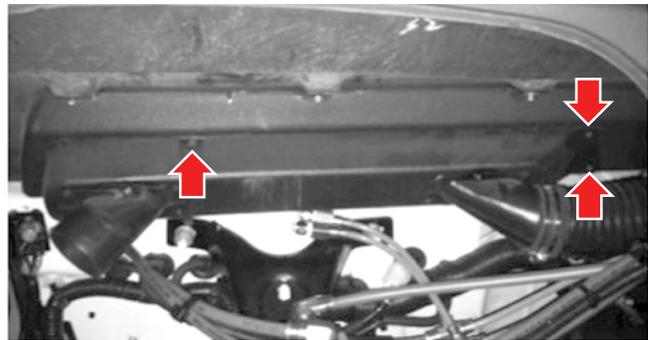

Figure 10-3
3. Remove the intermediate duct attached to the main defrost duct. Seal the screw holes by reinstalling the screws used to attach the intermediate ducting. Perform this on both LH and RH sides (see Figure 10-3).